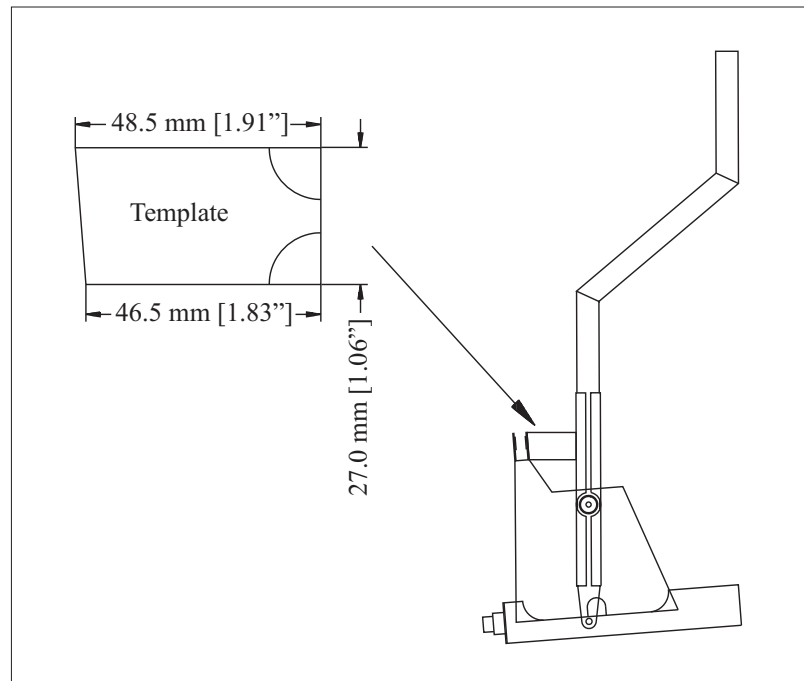

Figure 20 Neutral Position of the Control Stick
- 3 Secure the control stick in the neutral position. (Control stick perpendicular to the upper longerons. Use a template like shown in Figure 20).
- 1 Secure the control stick in normal position as per Figure 20.